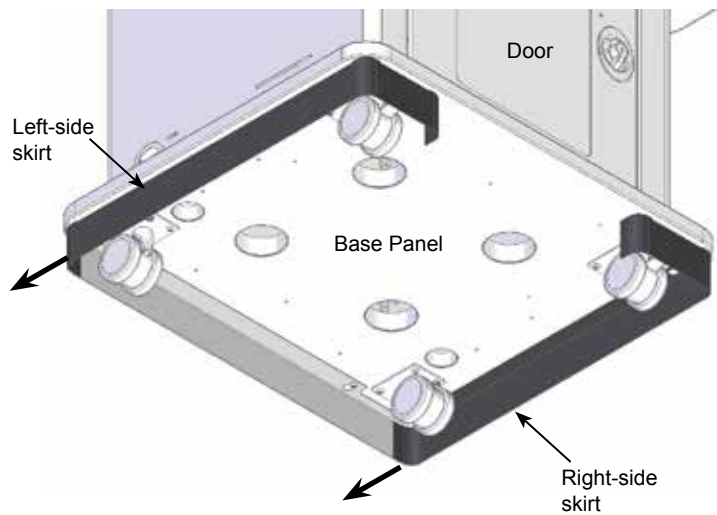

Figure 1B
1. Align the keyhole slots on each side skirt with the pre-installed screws. **Figure 1B.**